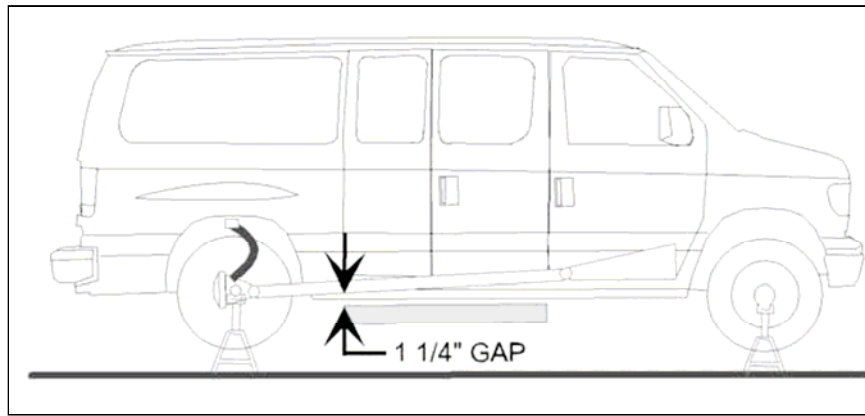

FIGURE 26: LIFT INSTALLED WHILE AXLES ARE SUPPORTED
2. Refer to **Figure 26** on following page. Raise vehicle and securely support at front and rear axles. Position lift in a to achieve a minimum of 1 ¼” of clearance between lift enclosure and driveshaft, as shown.
3. Refer to **Figure 26**. Locate a floor jack beneath rear axle differential to support axle at lift installation height.